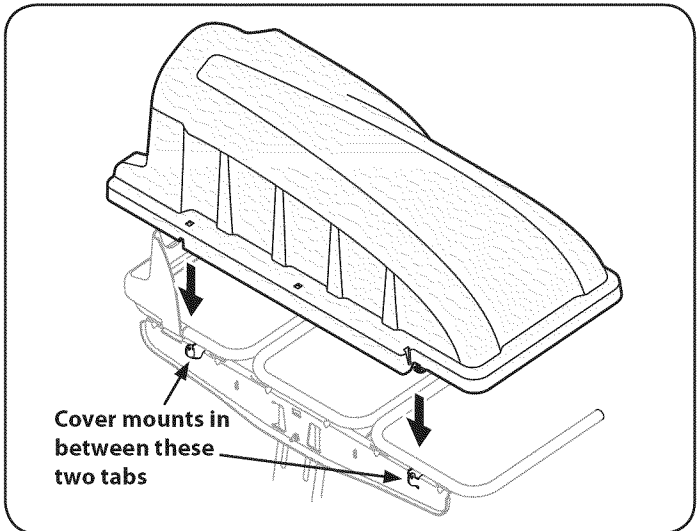

Figure 12
5. Install the grass catcher cover onto the bin support assembly, as seen in Fig. 12. The grass catcher cover goes inside of the two mounting tabs on the bin support assembly.